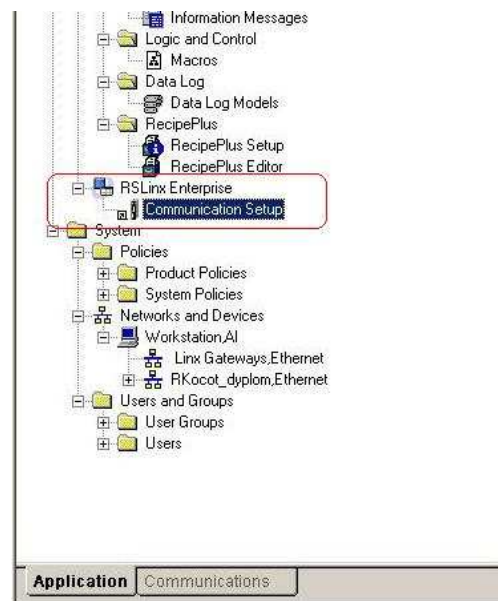

Fig.32. Communication setup
5. Define the **Local** and **Target** communication path: **Local** is a data source device for testing HMI applications, **Target** is a data source device for the final application. In particular, the Local and Target path can be the same. To define the communication path find *RSLinx Enterprise* → *Communication Setup* bookmark in the project tree (Fig. 32).